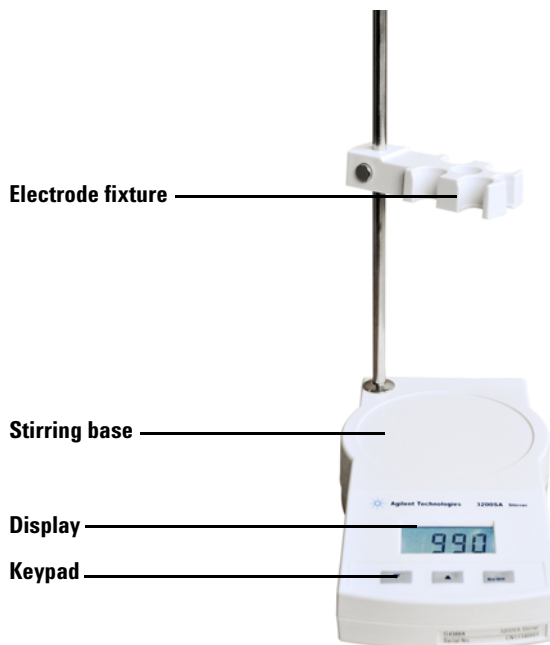

Figure 5 Front view of the stirrer
- 3 Place the container in the center of the stirring base so the stirring bar will rotate smoothly. Use the circle engraved on the stirring base as reference. See Figure 5.
- 1 Attach the electrode to the electrode fixture. See Figure 5 on page 15.
See Figure 5 on page 15.